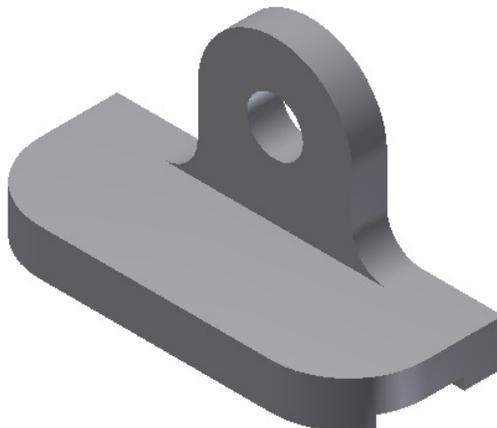

Figure 6-161 Mirrored fillets on the second feature
5. Choose **OK** from the **Mirror** dialog box; the fillet feature is created on the other side of the second feature as shown in Figure 6-161.